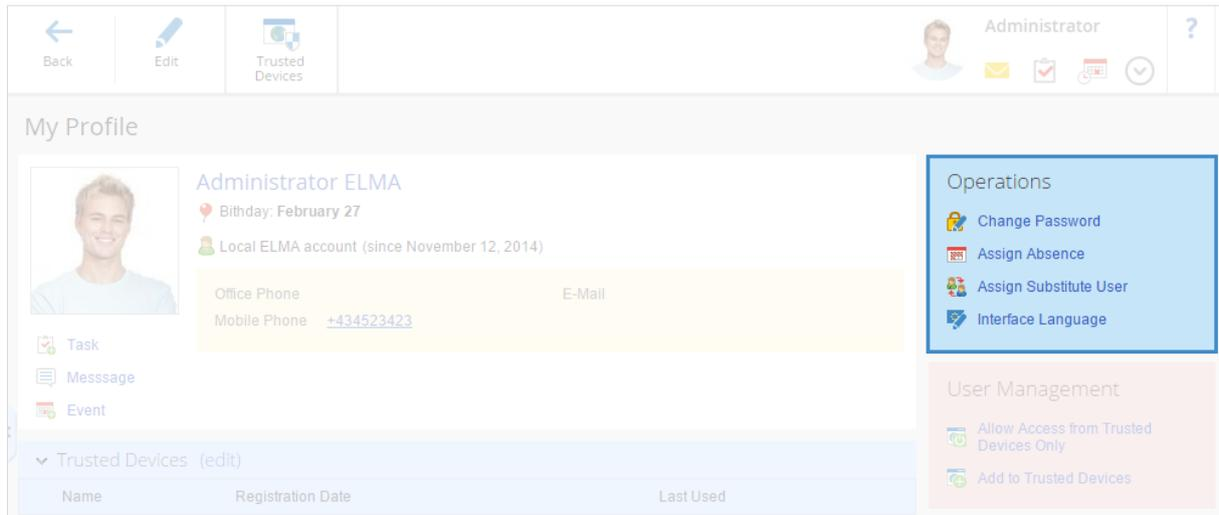

Fig. 31. User profile
Step 3. In the right upper corner of the user profile page, you will see **Actions**; in **Actions** click **Change password** (Fig. 31).